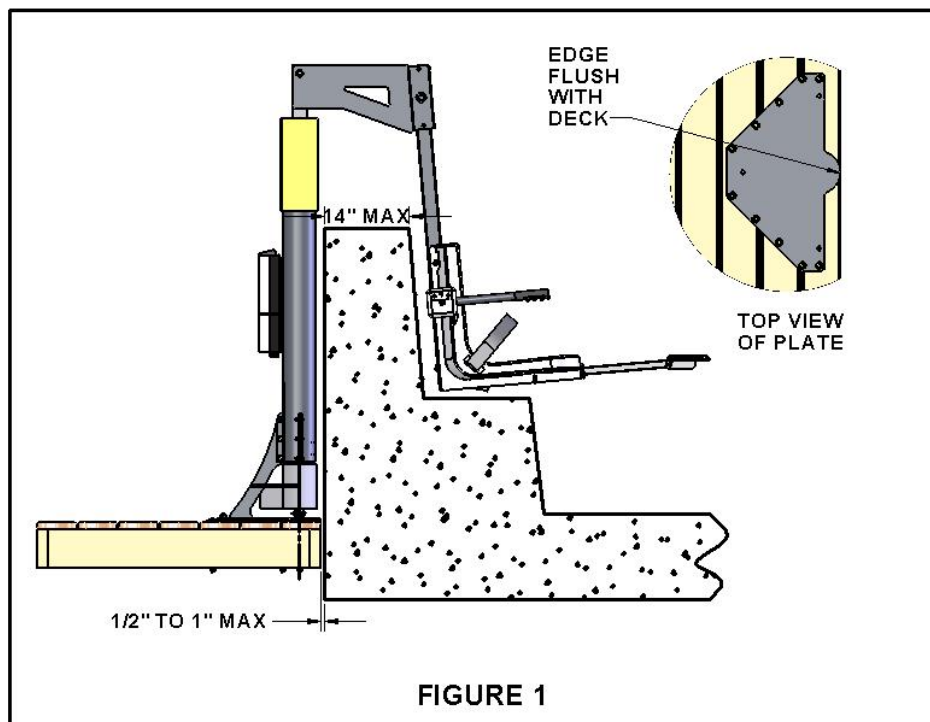

FIGURE 1
2. In most cases the WOOD DECK PLATE will be mounted as close to the spa as possible, without hanging over the edge of the deck. Therefore the front, rounded edge of the WOOD DECK PLATE will be flush with the front edge of the deck, as shown in **FIGURE 1**.